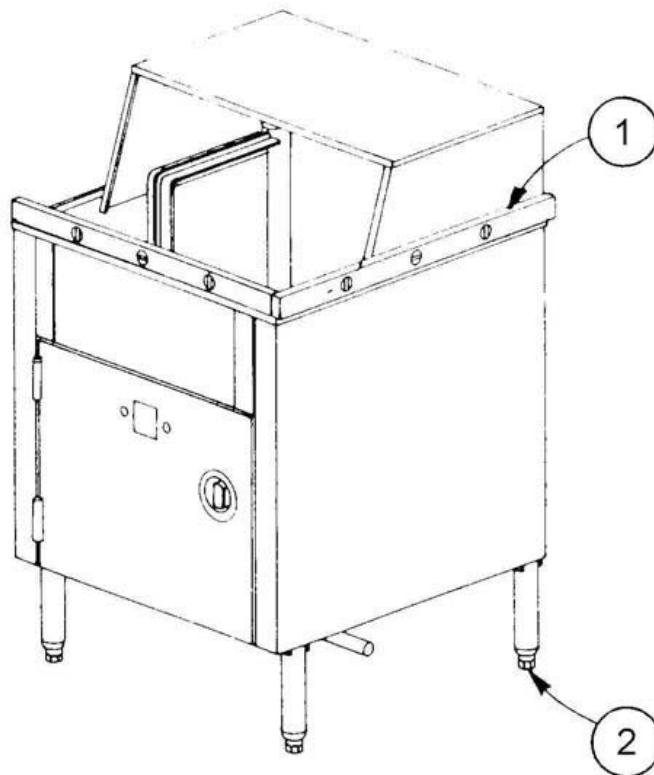

Figure 7.1.2
7.1.2 HEIGHT ADJUSTMENT (See Figure 7.1.2)